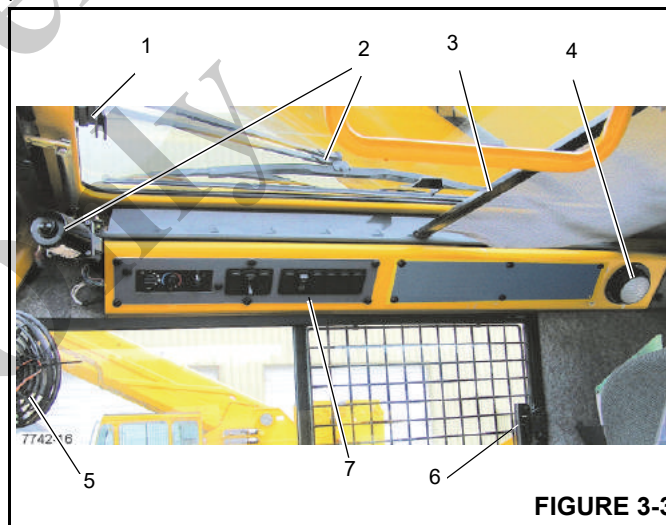

FIGURE 3-3
The Skylight Window Latch (1) (Figure 3-3) is at the front of the window. Squeeze the latch and slide the window to the rear to open. To close slide the window forward until the latch engages.
The Skylight Wiper (2) (Figure 3-3) is controlled by the Skylight Wiper Switch, (4) (Figure 3-4), and operated by the Wiper Motor.
The Skylight Sunscreen (3, Figure 3-3) is used to diminish direct sunlight. The sunscreen is self retracting and can be set to screen all the light or adjusted rearward by moving it into the notches provided.
The cab Dome Light (4, Figure 3-3) is on the right rear corner of the cab overhead console and provides illumination in the cab. The dome light is controlled by a switch on the light.
The Cab Circulating Fan (5, Figure 3-3) is located on the right front side of the cab, above the window frame. A swivel allows the fan to be rotated and a switch on the fan base controls the fan. The switch has a high, low and off position.
The window on the right side of the cab can be opened. Squeeze latch (6, Figure 3-3) to release the window and slide forward. To close slide the window rearward until the latch engages.
The Panel Dimmer Switch (5) (Figure 3-4) controls the lighting for the overhead heater/air conditioning controls and the Transmission Oil Temperature Gauge.(7) (Figure 3-3), push the switch to increase or decrease the panel lighting.